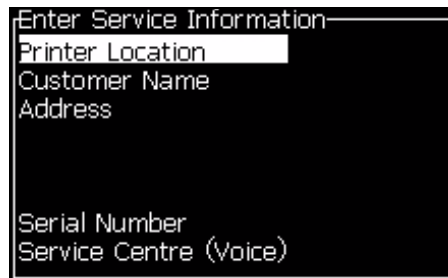

Figure 4-22: Enter Service Information Dialog Box
- 2 Select the *Enter Service Information* option and press the *Enter* key. The *Enter Service Information* dialog box appears (see Figure 4-22).